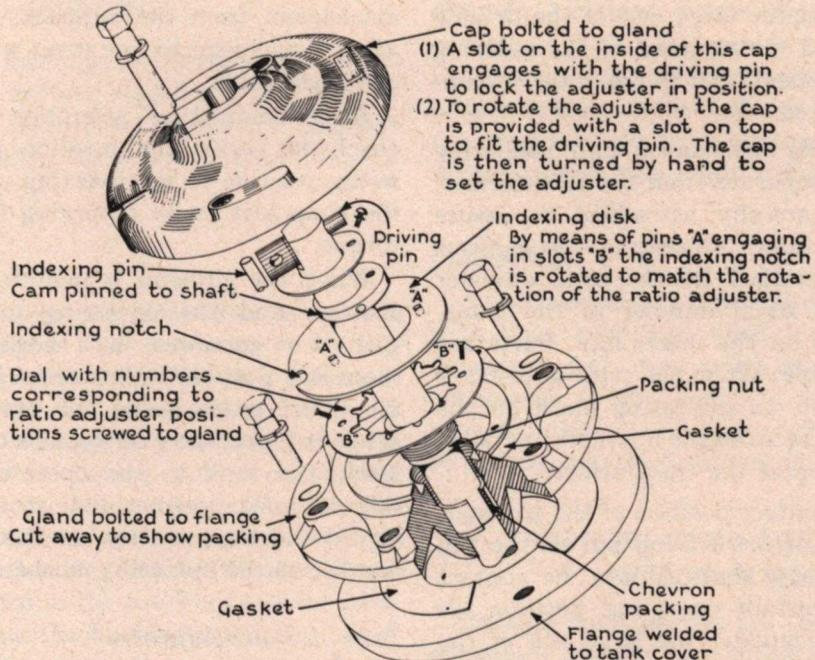

Fig. 7. Details of Operating Mechanism for Wedge-type Adjuster
#### Wedge Type (See Fig. 7)
Fig. 7 shows the parts of the operating mechanism and position-indicating device located either on the transformer tank wall or on the cover. Do not disturb the mechanism assembly unless it is necessary to tighten the stuffing box. If the relation of the pins (A) to the slots (B) is changed from the factory setting, wrong contact position and indicated tap change will result.